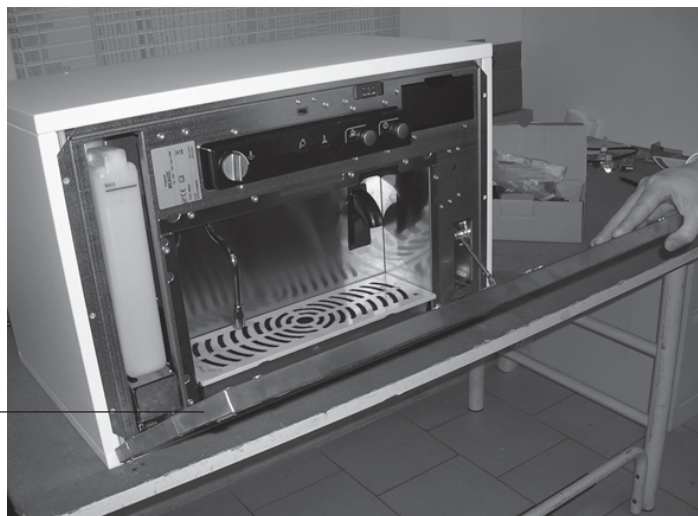

fig.4
- Open the front door A of the appliance as shown in fig. 4